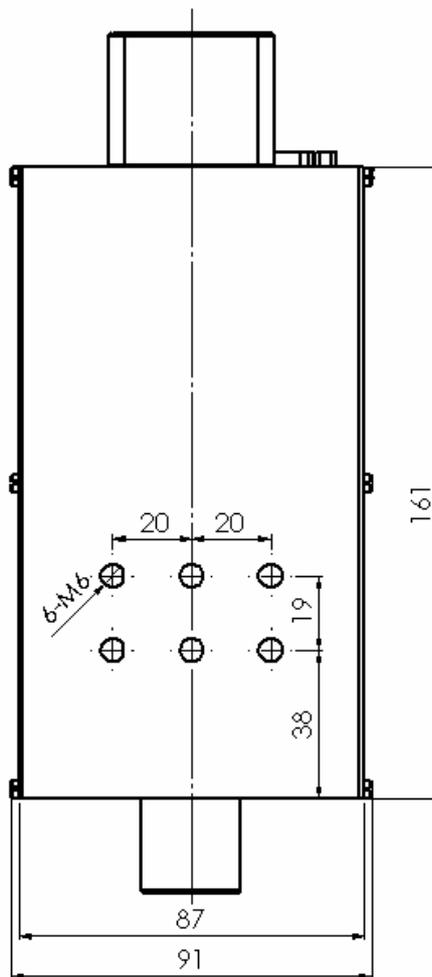

Figure 3-4 Back view of height controller
- Back view installation drawing of the height controller and related dimensions, as shown in Figure 3-4.